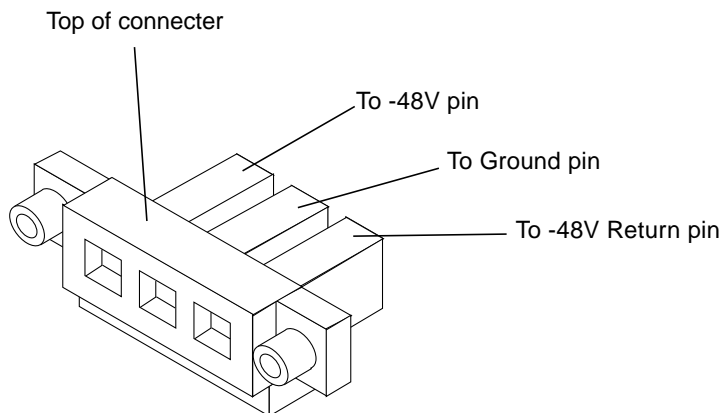

FIGURE 2-3 DC Plug Connector
2. Get two DC plug connectors from the Netra st ship kit (FIGURE 2-3).